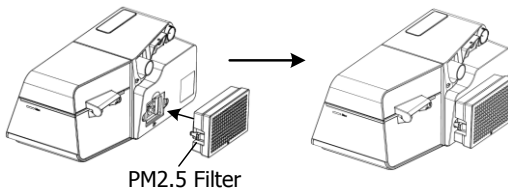

Fig. 11-3
(3) Change the air filter and filter cap to the PM2.5 filter, as shown in Fig. 11-3.